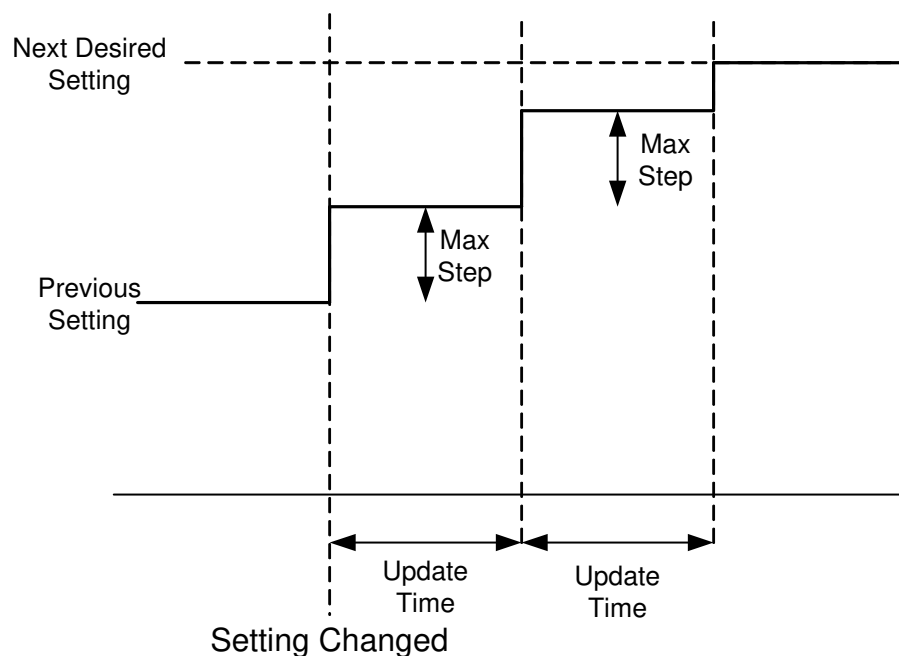

Figure 6.1 Ramp Rate Control
- '1' - The ramp rate control circuitry for the Manual Mode of operation is enabled. When the Fan Drive Setting values are changed, the change is compared against the Fan Step Register settings. If the change is larger than the Fan Step, then the fan drivers will be incrementally updated based on the update time until the final programmed Fan Drive Setting value is reached. See Figure 6.1, "Ramp Rate Control"